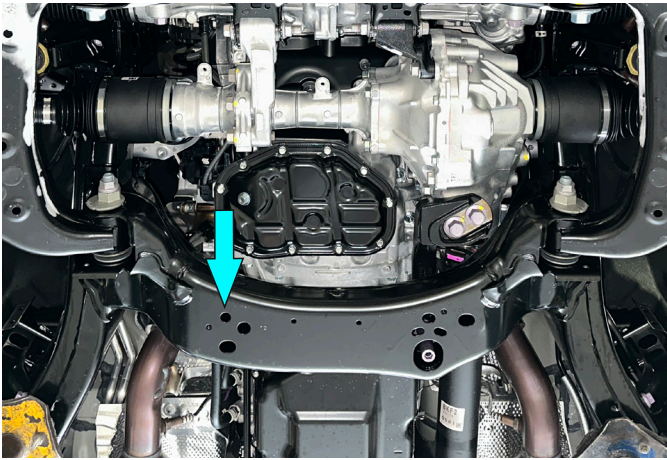

Fig. 1
1. Install M8 insert nut (item E) as shown in Fig. 1.